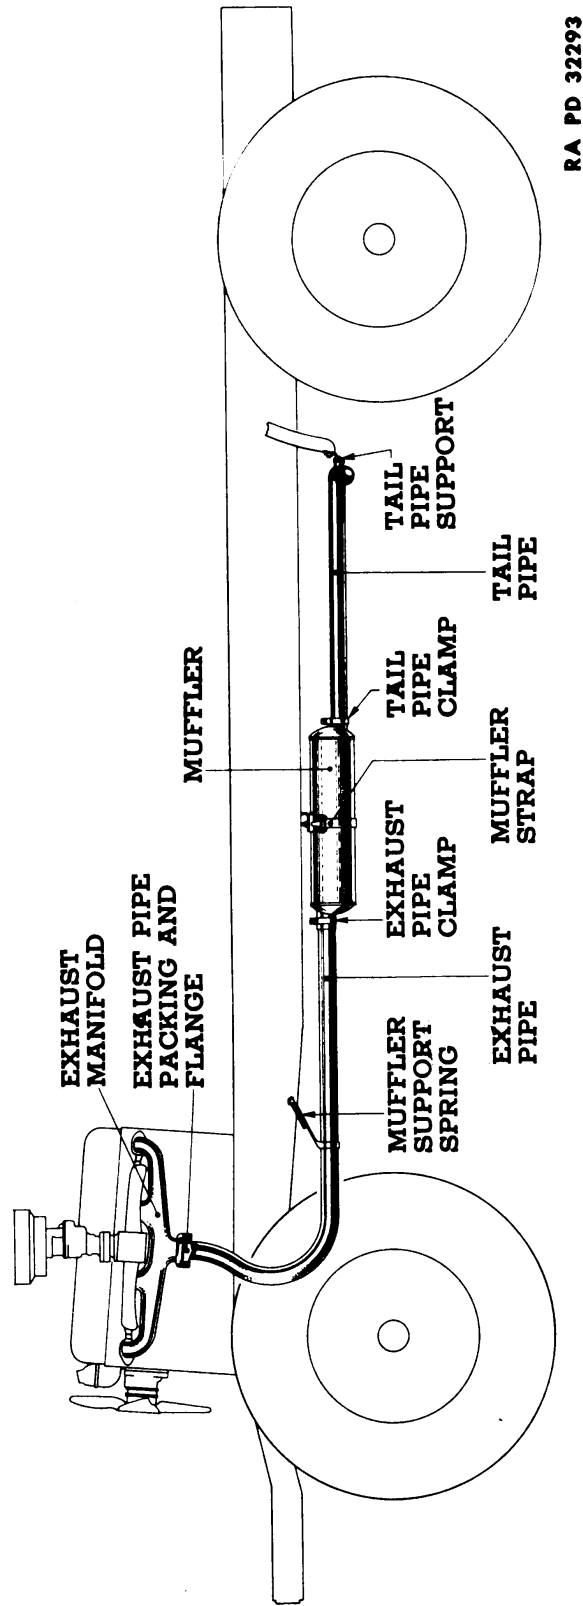

Figure 43—Exhaust System
b. Exhaust Pipe Replacement (fig. 43).